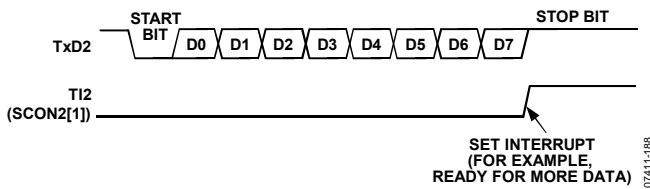

Figure 110. 8-Bit Variable Baud Rate
Transmission is initiated by a write to the Serial Port 2 buffer SFR (SBUF2, Address 0xEB). Next, a stop bit (1) is loaded into the ninth bit position of the serial port shift register. The data is output bit by bit until the stop bit appears on the TxD2 pin, and the Serial Port 2 transmit interrupt flag, TI2 (SCON2[1]) is automatically set, as shown in Figure 110.